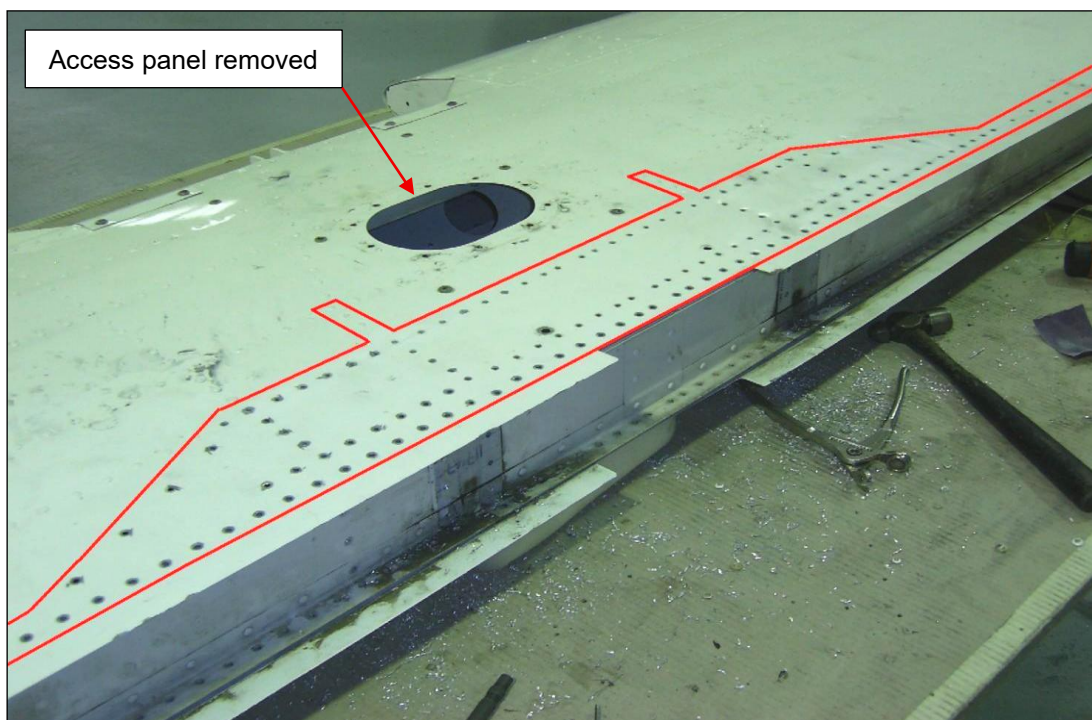

Figure 2: Rivets to be Removed from Skin
- 13.3.1 Remove the rivets along the rear spar line and skin doubler from the upper and lower skins full span as outlined in Figure 2.
- 13.4.1 Remove the remaining upper and lower rivets in the aft section of the inboard ribs (if not already removed). See Figure 2.